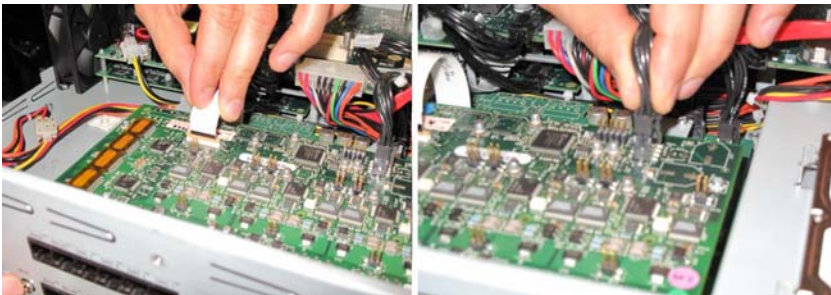

Figure 54: Attach Flex cable and Power Cable to AOB
9. Connect the other ends of the flex cable and power cable where indicated in Figure 54 (page 179). To attach the flex cable, lift up on the tabs at the end of the connector to loosen it, insert the cable label side up, and then press down on the tabs to tighten the connector.